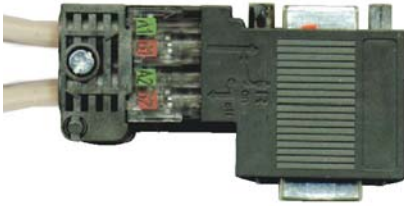

Figure 2.2: Bus connector with built-in switchable bus termination
1. Remove the bus connector from the master (view Figure 2.2 on page 16).